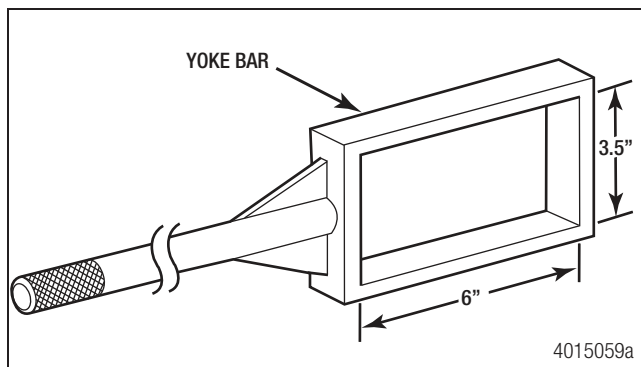

Figure 14.1
1. To make the box section, cut and weld one-inch x two-inch mild steel square stock according to the dimensions shown in Figure 14.1.